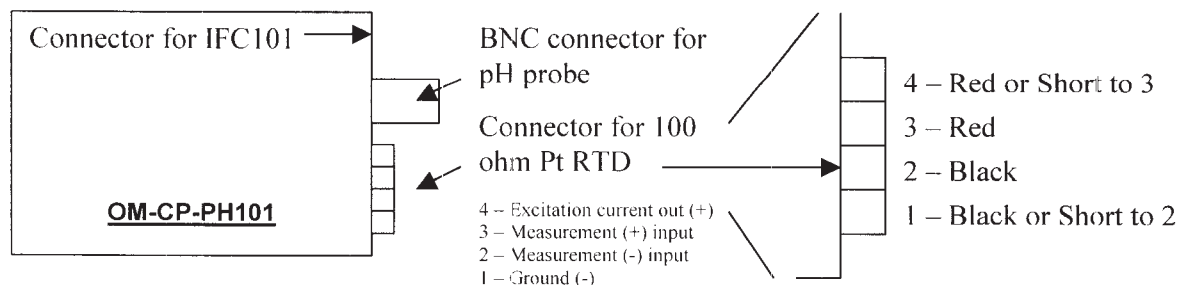

Figure 1
4. Connect the probes to the data logger. Refer to the diagram in Figure 1 below.